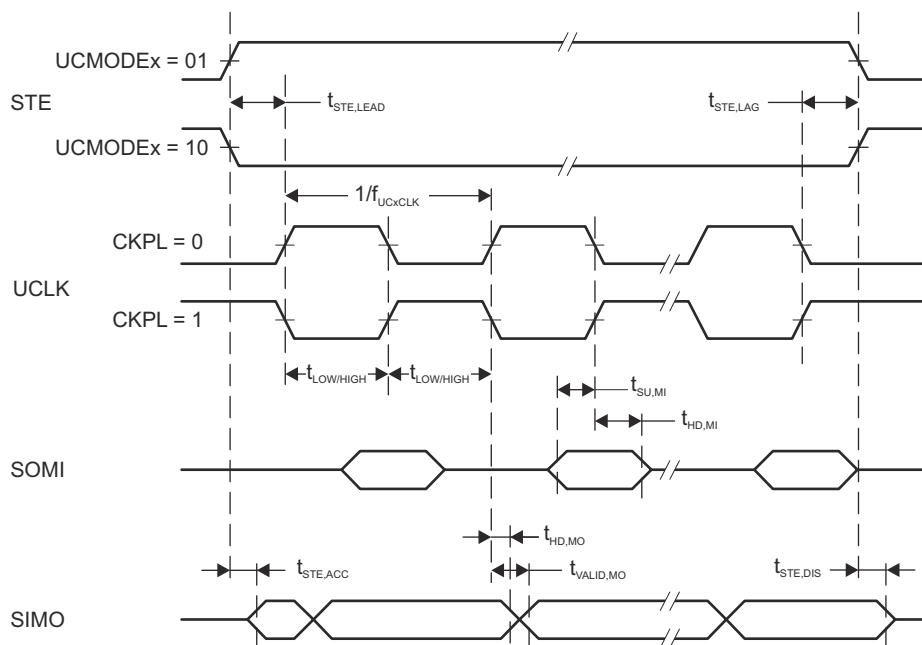
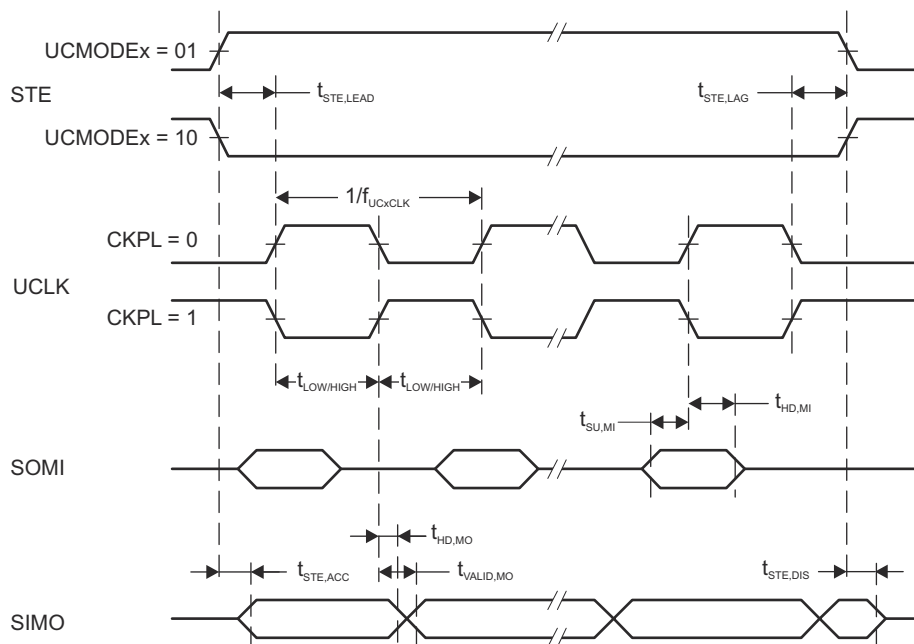

图 8-13. SPI Master Mode, CKPH = 0
图 8-14. SPI Master Mode, CKPH = 1
- (1) f_{UCxCLK} = 1/2t_{LO/HI} with t_{LO/HI} = max(t_{VALID,MO}(eUSCI) + t_{SU,SI}(Slave), t_{SU,MI}(eUSCI) + t_{VALID,SO}(Slave)). For the slave parameters t_{SU,SI}(Slave) and t_{VALID,SO}(Slave), see the SPI parameters of the attached slave.
- (2) Specifies the time to drive the next valid data to the SIMO output after the output changing UCLK clock edge. See the timing diagrams in Figure 8-13 and Figure 8-14.
- (3) Specifies how long data on the SIMO output is valid after the output changing UCLK clock edge. Negative values indicate that the data on the SIMO output can become invalid before the output changing clock edge observed on UCLK. Refer to the timing diagrams in Figure 8-13 and Figure 8-14.